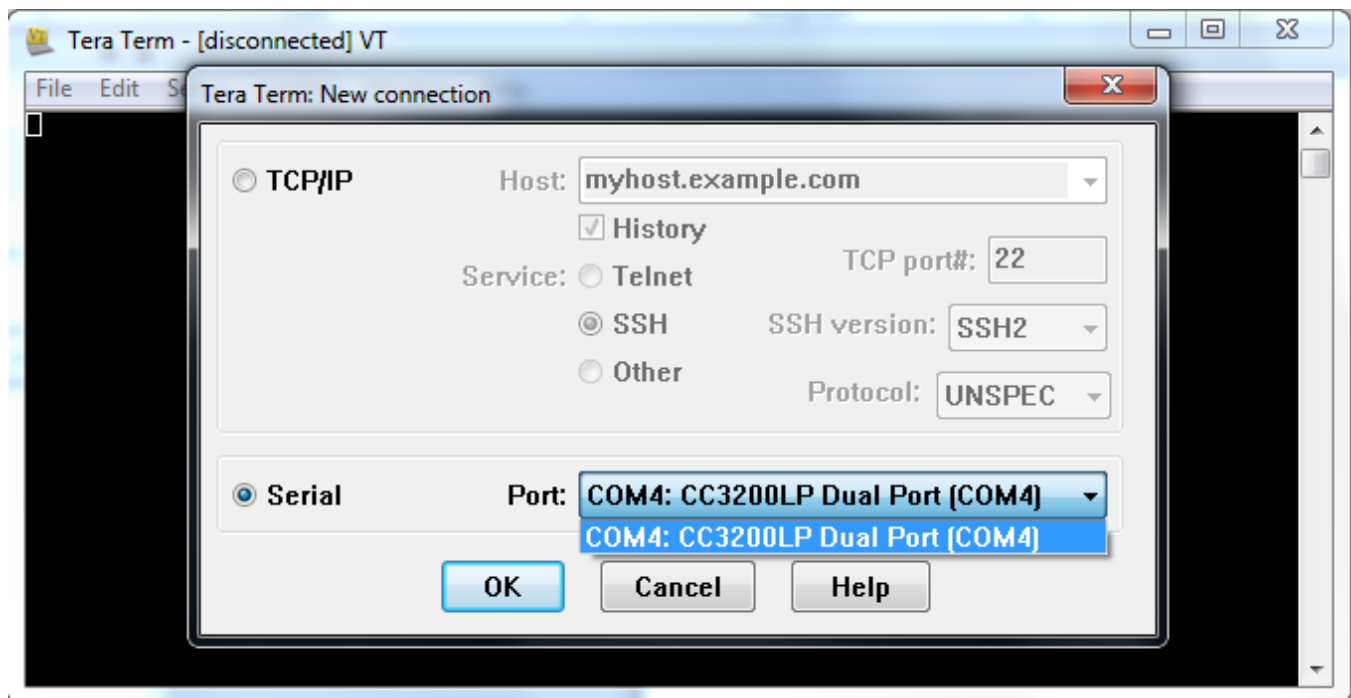

Figure 13. Launch Tera Term
16. Launch Tera Term, and create a new serial connection to the CC3200 Launchpad COM port as shown in Figure 13.